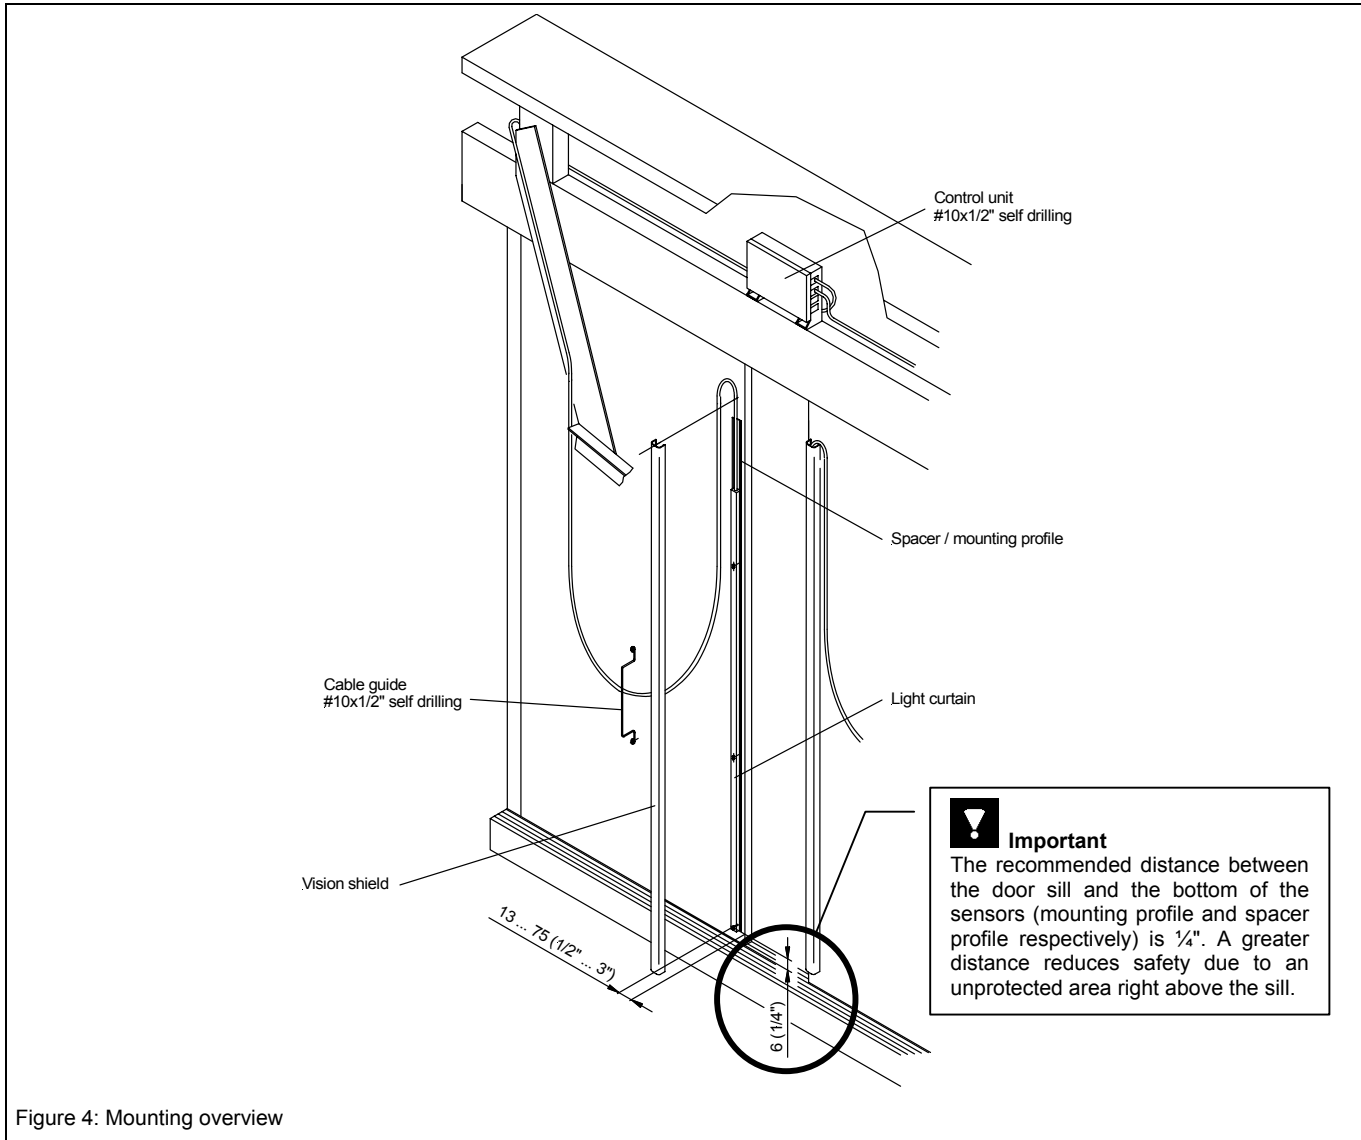
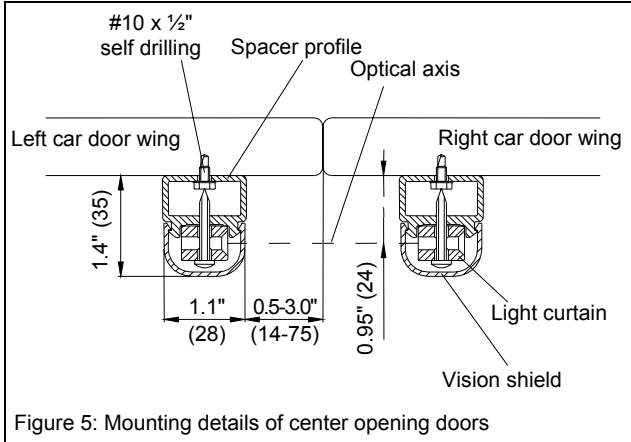

Figure 4: Mounting overview
Figure 5: Mounting details of center opening doors
1. Install the spacer profile to the door with 6 self tapping screws (note the 'bottom'-label on the mounting/spacer profile and refer to Figure 4 for proper mounting position).
We recommend installation of the sensors as far away as possible from the leading edge of the door to prevent them from damage, e.g. vandalism (refer to Figure 5: Mounting details of center opening doors and Figure 4: Mounting Overview).
The control unit can be mounted horizontally or vertically using #10 x 1/2" self tapping screws. An ideal mounting position is drawn in Figure 4.